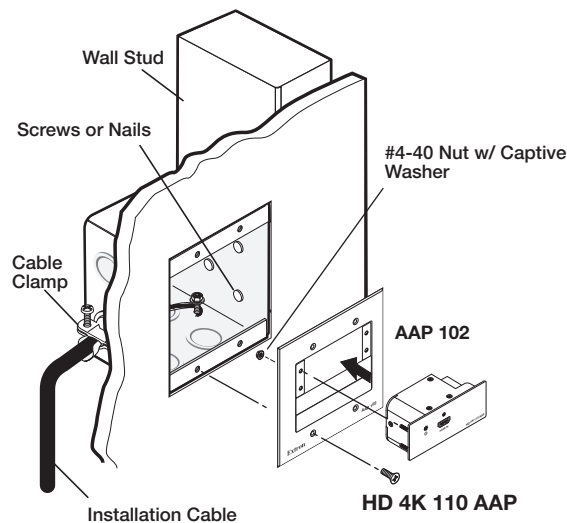

Figure 7. Mounting the HD 4K 110 AAP to an AAP Wall Plate
3. Secure the HD 4K 110 AAP to the AAP frame using the provided #4-40 nuts and captive washers (see figure 7).
7. Attach the AAP frame to the wall box or mud ring using machine screws (see figure 7 on the previous page). Be careful not to damage cables behind the AAPs.